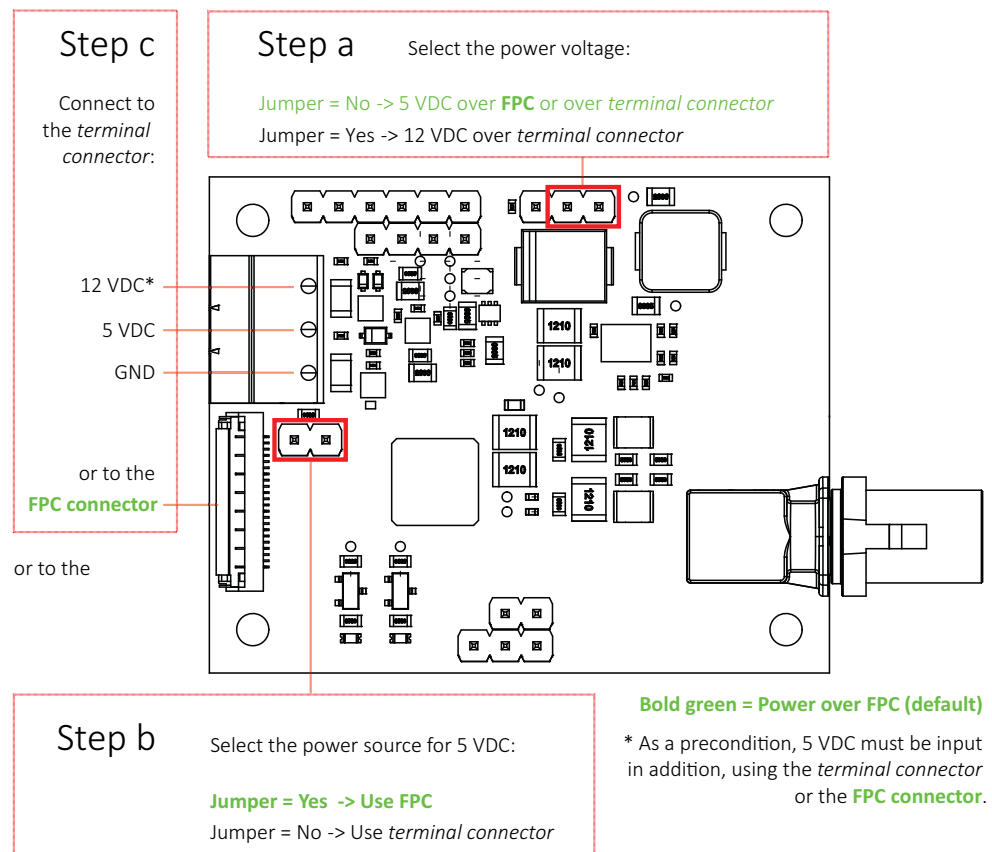

Figure 16: Connections and jumper settings for power supply
2. Set the jumpers for Step a and Step b as shown in Figure 16.
For power over the **terminal power connector**, connect the Phoenix Contact MC 1,5/3-ST-3,5 connector as shown in Figure 16 for Step c.